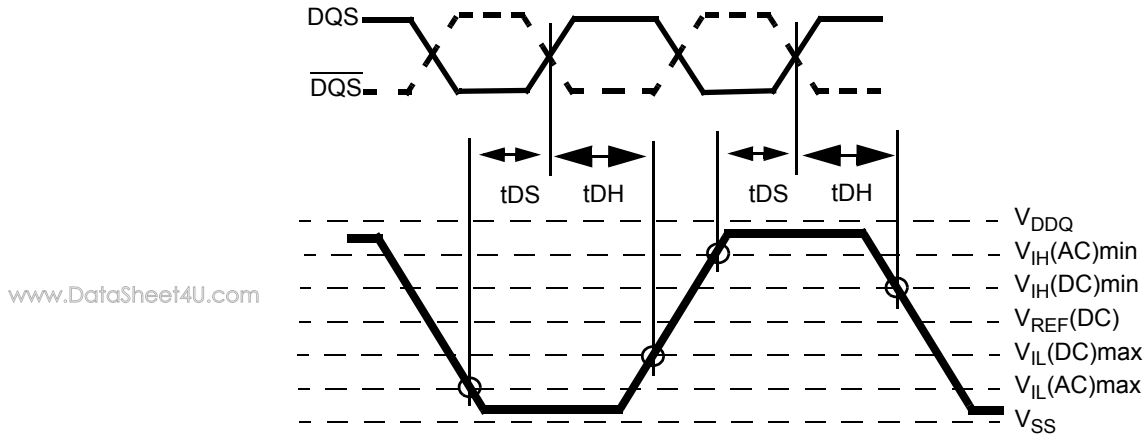

Figure 18 - Differential input waveform timing -  $t_{DS}$  and  $t_{DH}$
20. Input waveform timing  $t_{DS}$  with differential data strobe enabled  $MR[\text{bit}10]=0$ , is referenced from the input signal crossing at the  $V_{IH}(\text{AC})$  level to the differential data strobe crosspoint for a rising signal, and from the input signal crossing at the  $V_{IL}(\text{AC})$  level to the differential data strobe crosspoint for a falling signal applied to the device under test.  $DQS$ ,  $\overline{DQS}$  signals must be monotonic between  $V_{IL}(\text{DC})_{\text{max}}$  and  $V_{IH}(\text{DC})_{\text{min}}$ . See Figure 18.
21. Input waveform timing  $t_{DH}$  with differential data strobe enabled  $MR[\text{bit}10]=0$ , is referenced from the differential data strobe crosspoint to the input signal crossing at the  $V_{IH}(\text{DC})$  level for a falling signal and from the differential data strobe crosspoint to the input signal crossing at the  $V_{IL}(\text{DC})$  level for a rising signal applied to the device under test.  $DQS$ ,  $\overline{DQS}$  signals must be monotonic between  $V_{IL}(\text{DC})_{\text{max}}$  and  $V_{IH}(\text{DC})_{\text{min}}$ . See Figure 18.